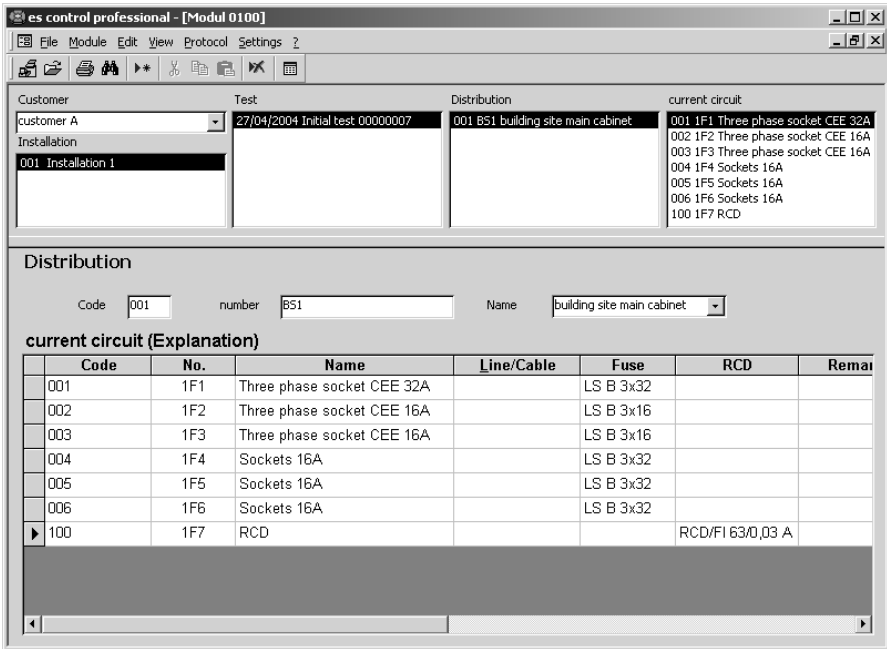

Figure 6.27: "Distribution" window with entered residual current device
- ▶ Select the function Customer, Installation, and Test from the UNITEST es control 0100 professional software (Customer A, Installation 1, initial test) in compliance with Figure 6.27.